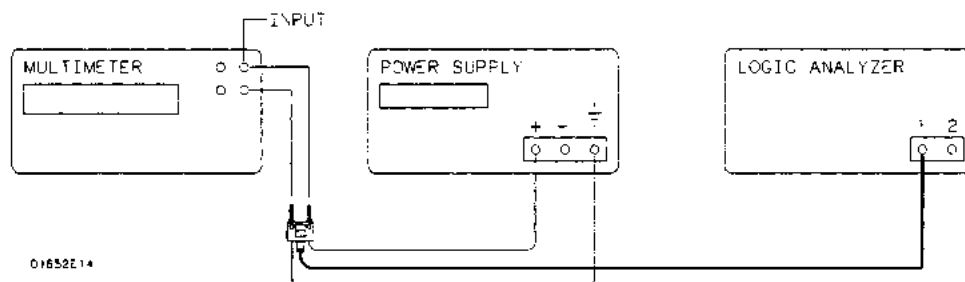

Figure 3-43. Setup for Voltage Measurement Accuracy
1. Connect the HP 1652B/1653B and test equipment as in figure 3-43.